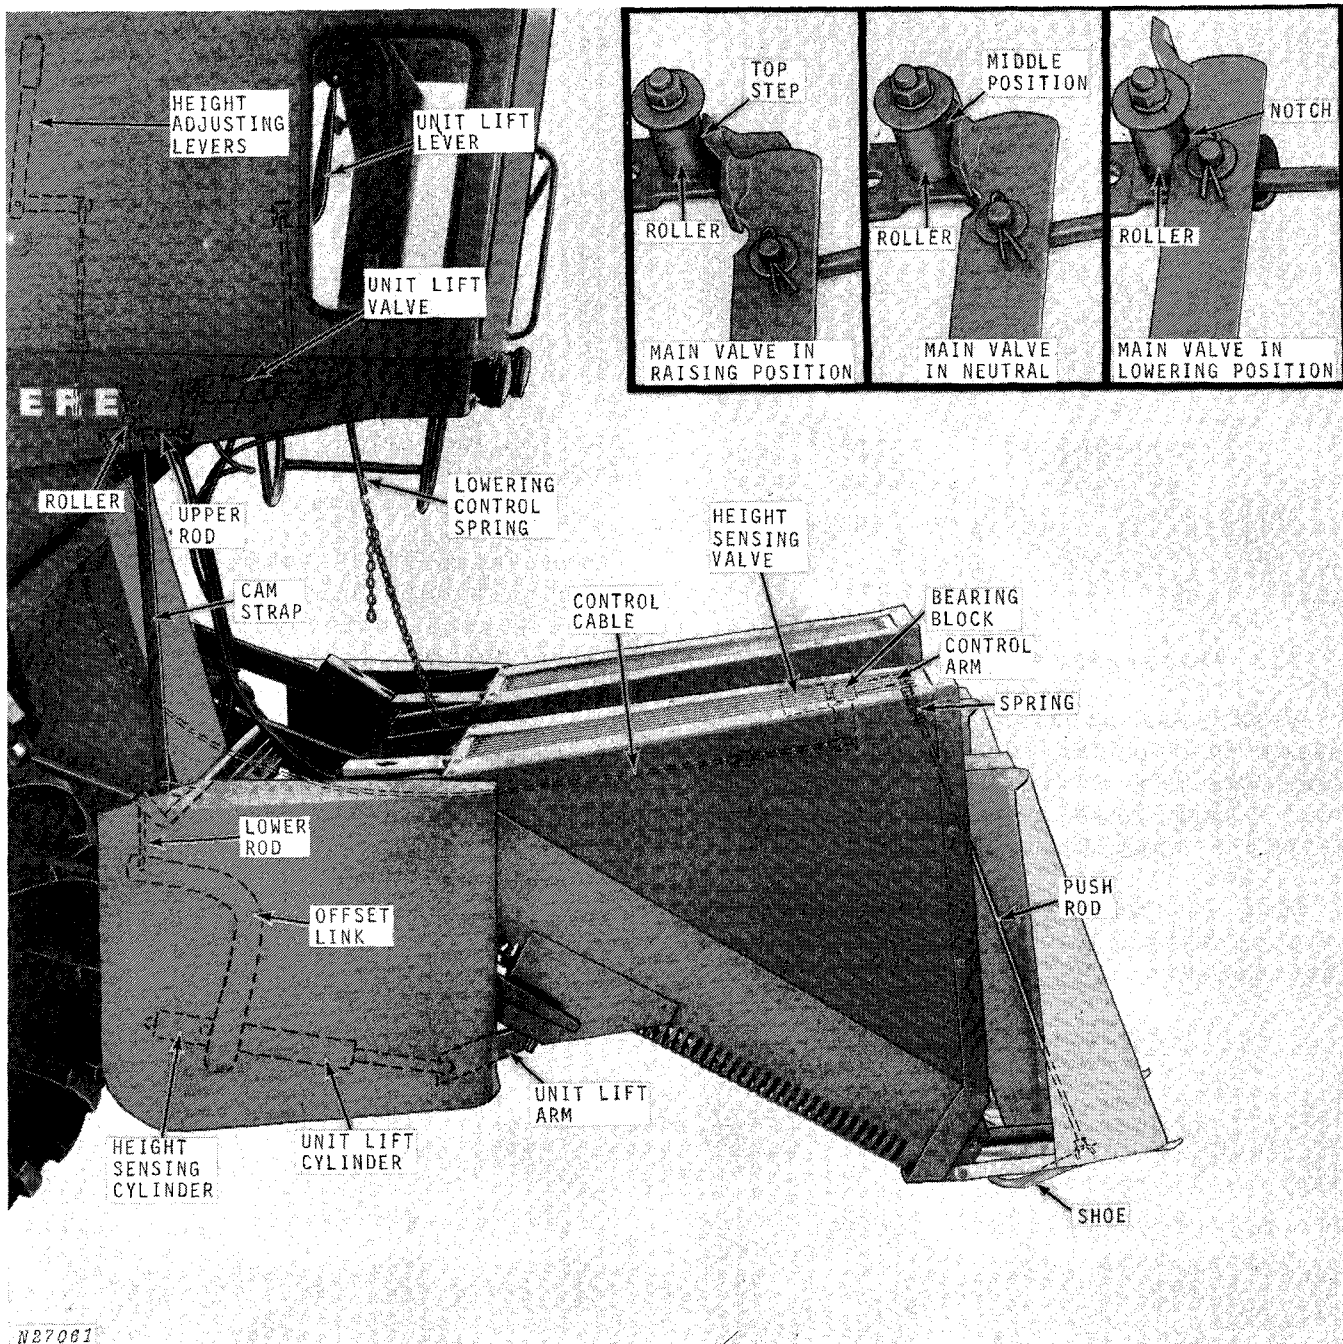

Fig. 27—Automatic Height Control
6. Set height adjusting levers (Fig. 27) to approximately midrange.